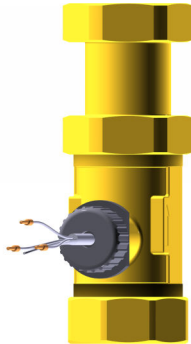

Fig. 44: Flow rate sensor
6. ➤ Install a new flow rate sensor (Fig. 44).